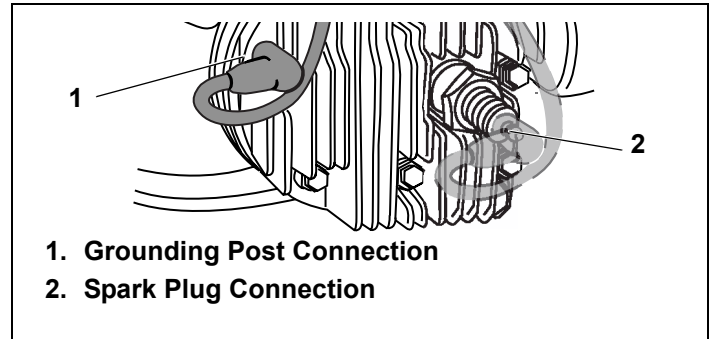

Figure 31. Typical Grounding Post/Spark Plug Connection
- Carefully attach the spark plug wire to the grounding post, if provided. See Figure 31.